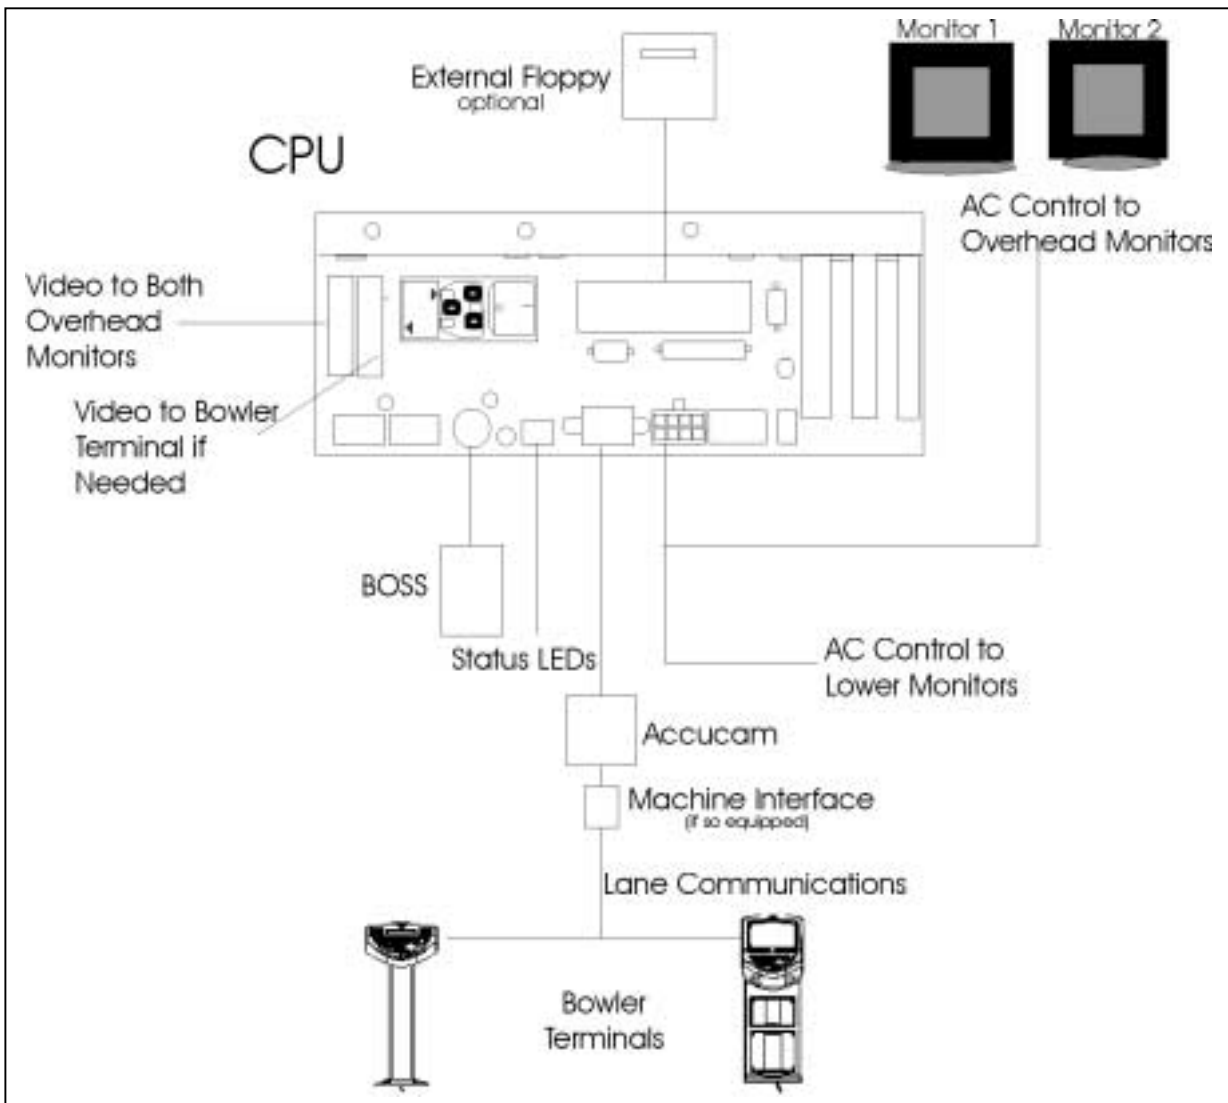

FIGURE 3-1 Scorer BT INTERFACE
- Figure 3-1 Scorer - BT Interface